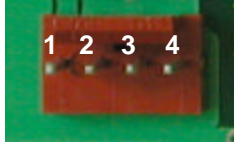

Figure 2-2 Power connector
4. Connect the power connector, making sure that the +5V goes to V+ as shown in Figure 2-2. Turn on the power: the LCD backlight should come on.